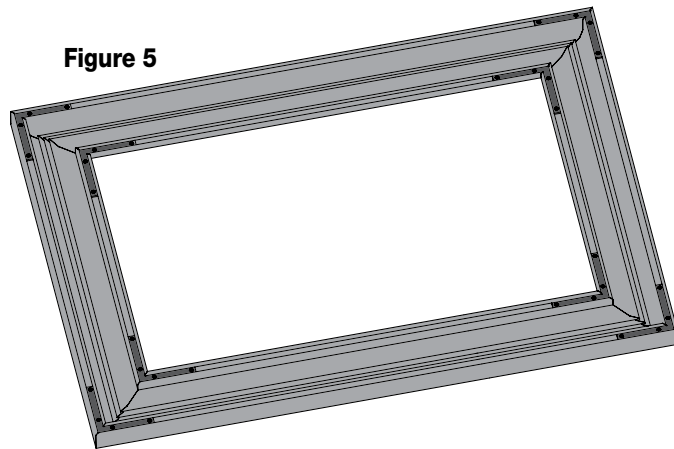

Figure 1
1. Clean area and place frame assembly pieces face down. Insert corner brackets into aluminum frame extrusions as indicated in Figures 1 through 4. For easier assembly insert the inner connectors first.